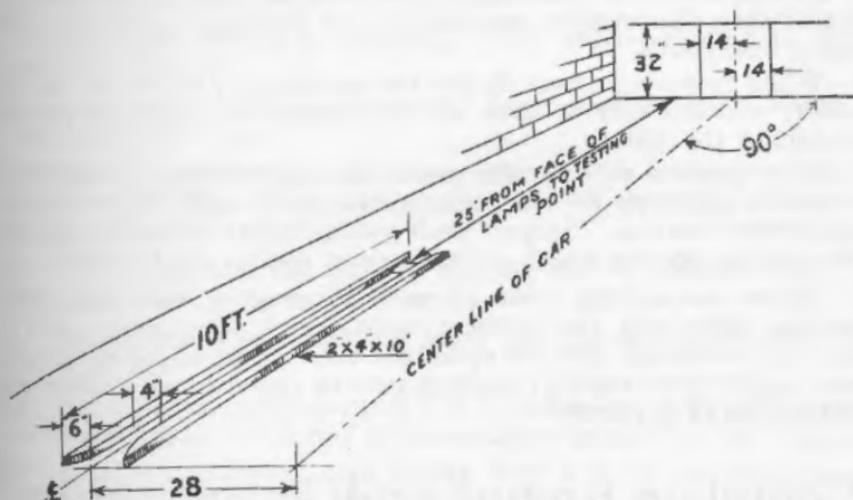

Fig. 128
- The tops of the bright spot on the 25-foot wall are set at a line 32" above level of surface on which car stands (See Fig. 128). With top lines thus set for empty car, the headlamps will also have the proper tilt under full loads.
- 158 With the car facing a white wall 25 feet in front of headlamps, proper alignment can readily be checked by means of a horizontal line drawn on the wall 32" above the level surface of car, and two vertical lines 28" apart, each one 14" from center line of car. Proper alignment of car relative to marks on the wall can be provided by the use of wheel guide blocks for one side of the car, as shown in Fig. 128. If it is impractical to tie up the floor space required by these blocks, marks painted on the floor can be used to show where one set of wheels should track and where the car should be stopped.